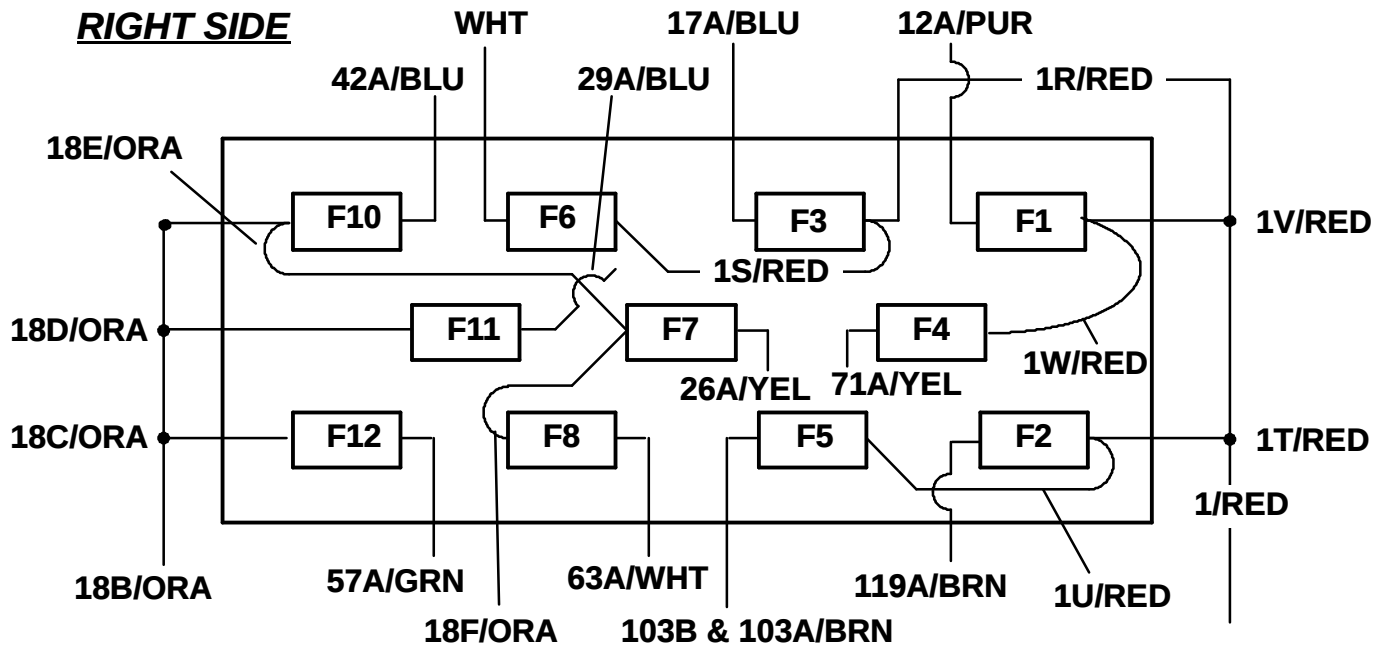

FIG. 4 - New Fuse Block Wire Diagram
5. Install existing fuses in new fuse blocks (762535). Refer to FIGS. 4 and 5 for fuse locations.
(Refer to Figure 4)